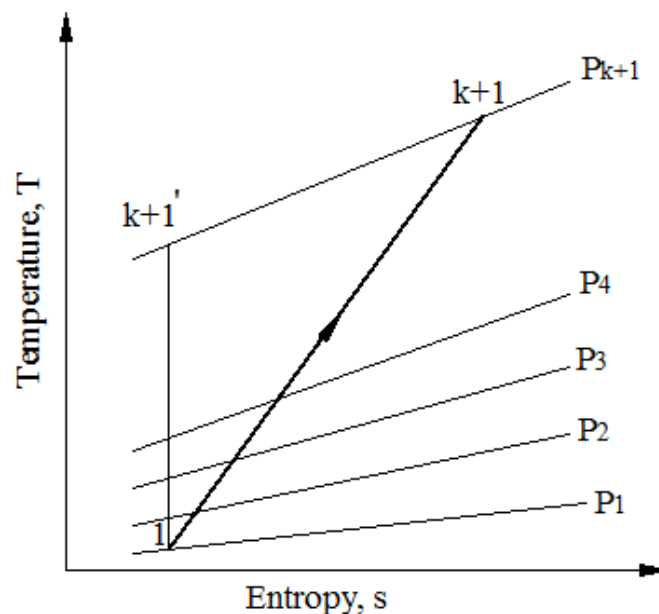

Fig. 2.6 Compression process in multistage compressor
**Answer:** The figure 2.6 shows the T-s diagram for compression process in multistage compressor operating between the pressures  $p_1$  and  $p_{K+1}$ . If there are  $K$  stages with the overall pressure ratio  $\frac{p_{K+1}}{p_1}$  and having equal stage efficiency and stage pressure ratio.